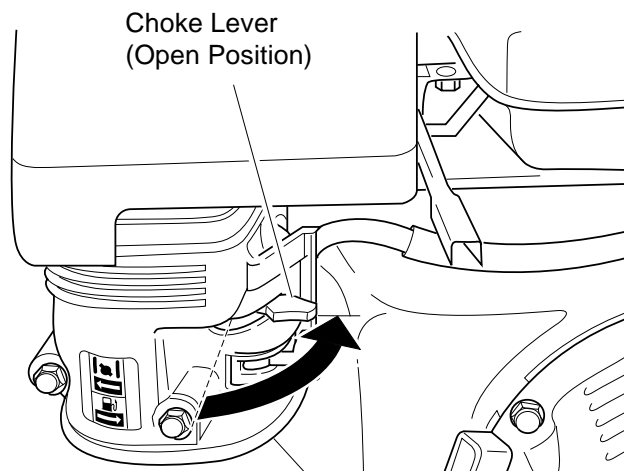

Figure 18 - Choke Lever Opened
5. As engine warms up, slowly move choke lever fully to the right (see Figure 18, page 22). This opens the choke.